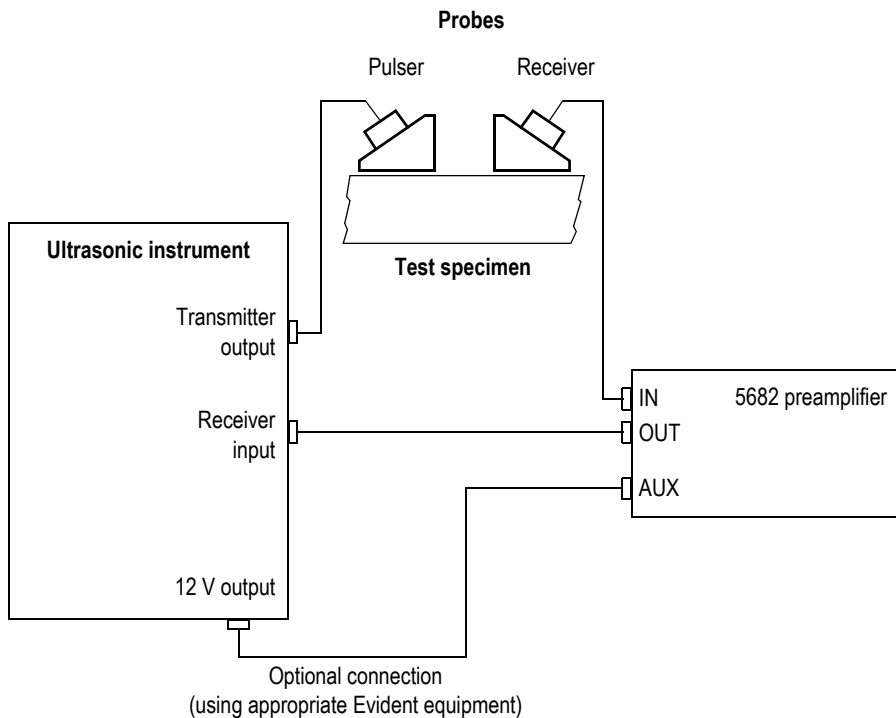

Figure 2-1 The preamplifier connections for a pulser-receiver system
- ◆ Complete the connections between the preamplifier, instrument, and probes as illustrated in Figure 2-1 on page 26.